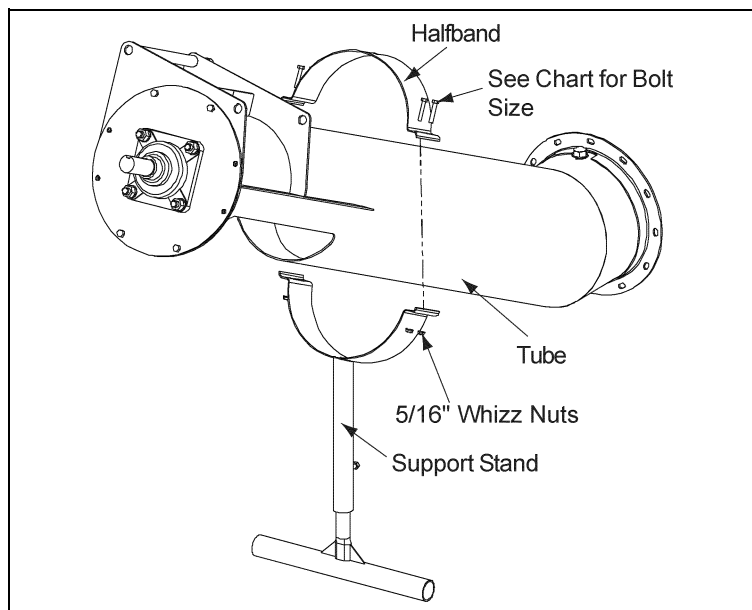

Figure 4C
- A. Place Support Stand and Half Band around Tube and secure together with 5/16" Bolts and Serrated flange nuts. (See Figure 4C)